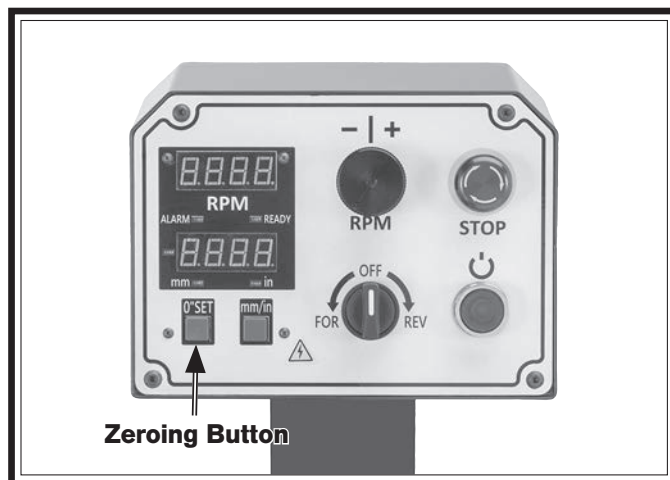

Figure 42. Location of zeroing button.
2. Return spindle height to 0" by pressing zeroing (0" Set) button on control panel (see **Figure 42**).